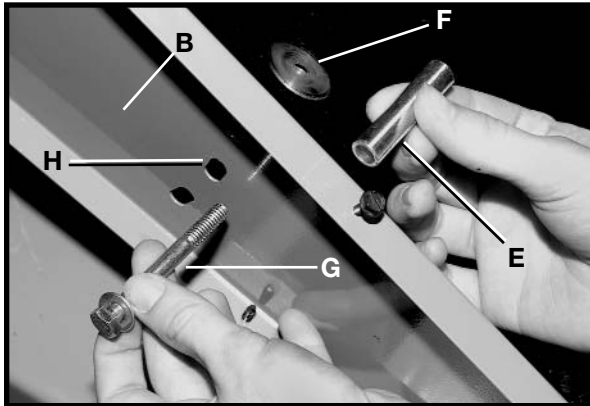

Fig. 11
3. Place the spacer (E) Fig. 11 against the countersunk hole (F) located behind the belt and pulley guard (B). Insert the 5/16-18 x 2 3/4" hex head cap screw with a flat washer (G) into the center hole (H), through the spacer (E). Attach a lock washer and thread it into the countersunk hole (F).